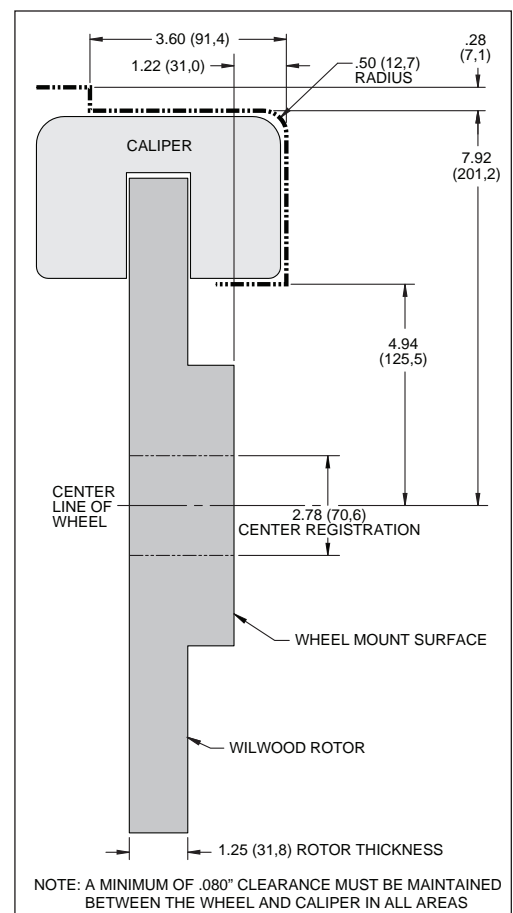

Figure 2. Wheel Clearance Diagram
- This kit will fit most 18" and larger wheels, please refer to wheel clearance diagram (Figure 2, page 3) for your specific requirements. For ALL other wheels, consult the wheel clearance diagram (Figure 2, page 3) to determine compatibility. Parts that have been installed may not be returned or exchanged.
- Verify your wheel clearance using Figure 2.